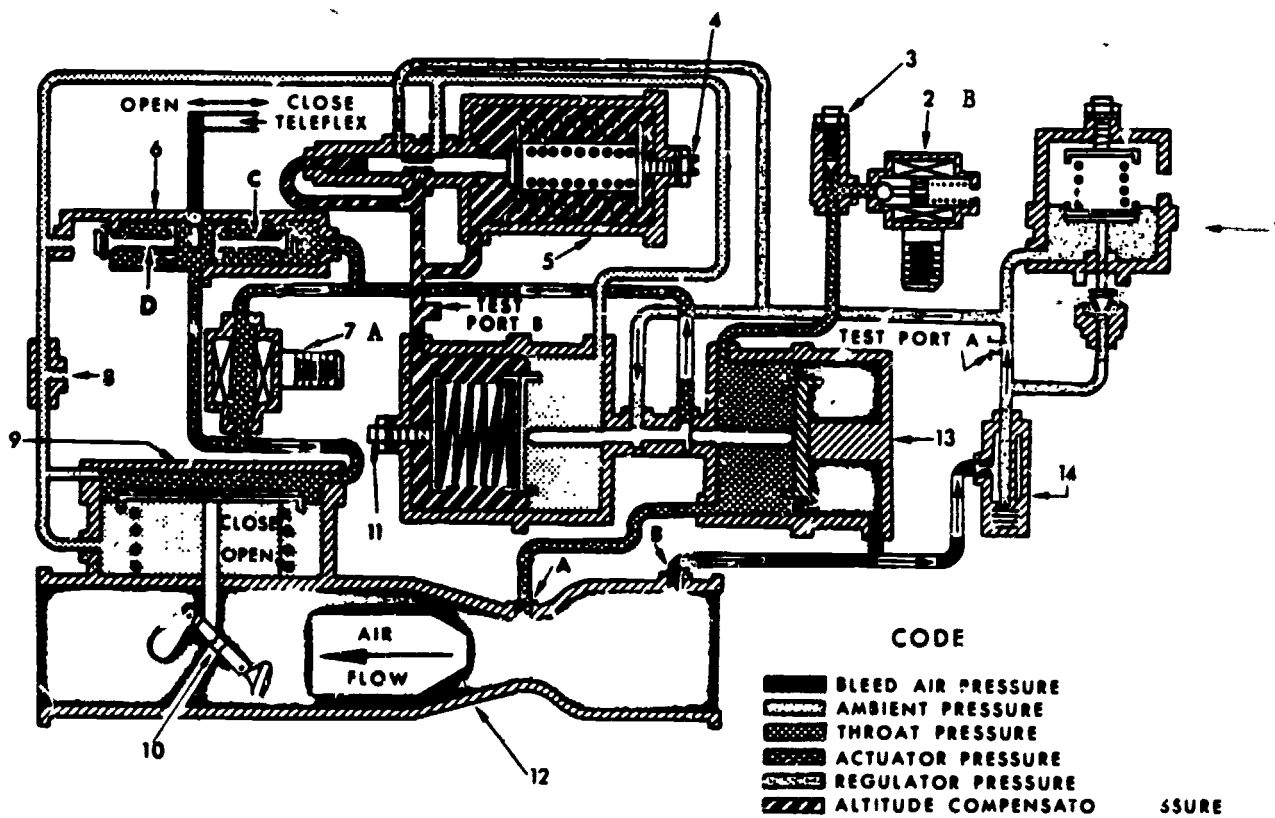

Figure 2. Airflow Control and Shutoff Valve.
Use figure 2 as a guide, give the number in figure 2 that identifies each of the major components listed.
Use figure 2 as a guide to answer the statements as true (T) or false (F).
Now, just as a review, write the names of the major components that corresponds to the numbers in parentheses. Use figure 2, if you must, to help you name all of them.